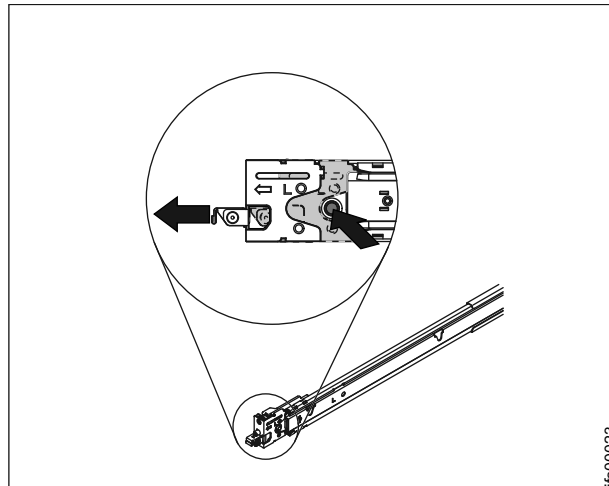

Figure 40. Install the rear end of the slide rails
5. Push the blue button to allow the latch to slide forward, as shown in Figure 40 on page 85.